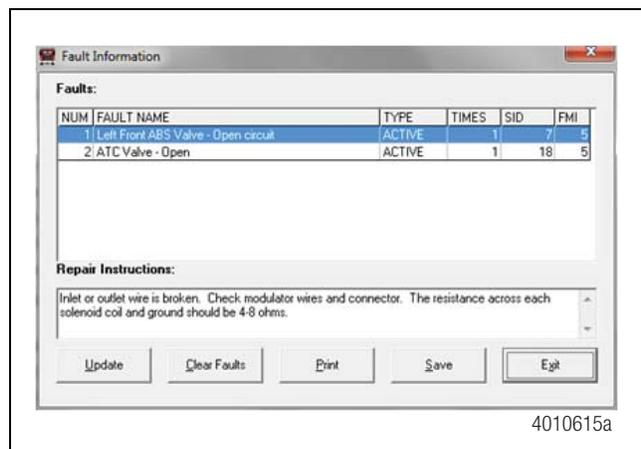
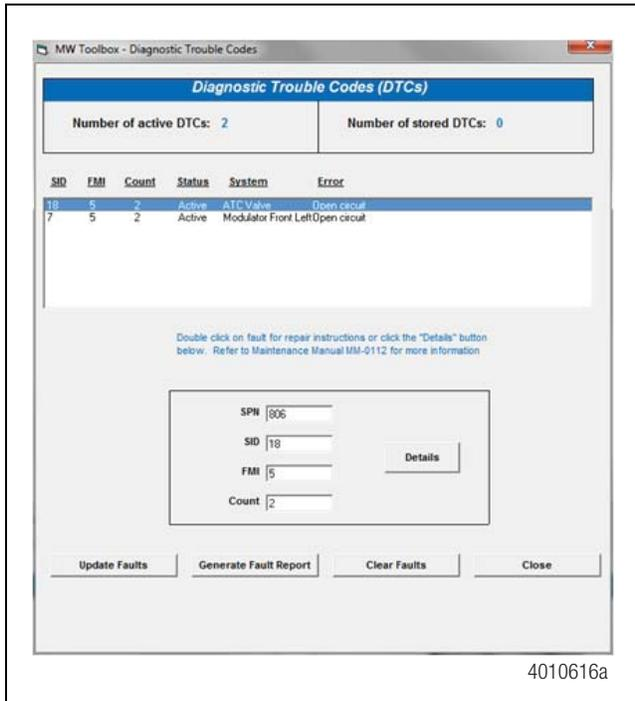

Figure 3.5
Figure 3.6
7. From the pull-down menu, select **Diagnostic Trouble Codes**. This will open the Fault Information screen. Figure 3.5 and Figure 3.6.